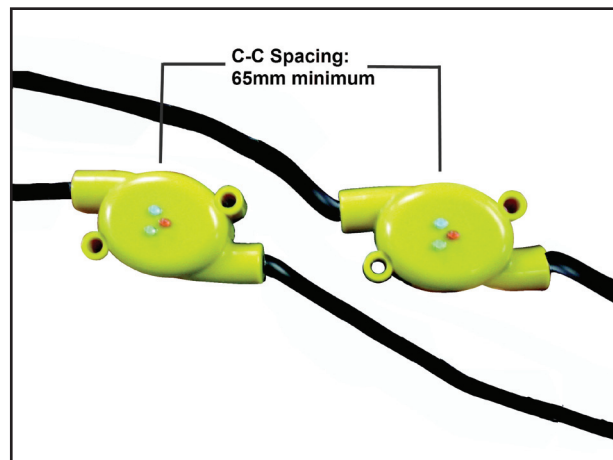

**Figure 4:** Proper Mounting Orientation
**Figure 4** shows the proper orientation to use when mounting the elements. This method allows for the elements to lay flush on the mounting medium with no interference from cables.